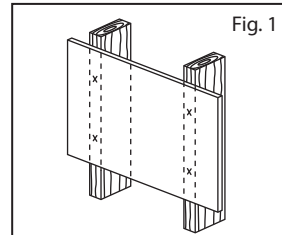

Fig. 1
- 3** While another person holds the mount in place, mark four locations (two per stud) for securing the mount to the wall (see Fig. 1).